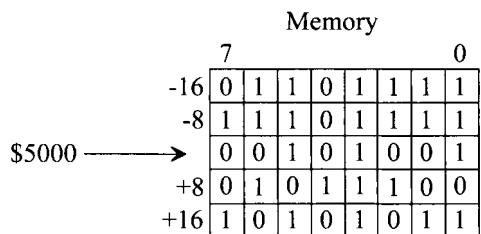

**FIGURE P8.3**
- 8.3      Assume the 68020 memory configuration shown in Figure P8.3.